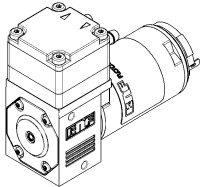

Fig. 9: Optimal mounting orientation / horizontal
- Mounting orientation → Generally speaking, the pump can be mounted in any orientation. The venting and accuracy of the pump is optimal if installed as shown in the illustration (Fig. 9).